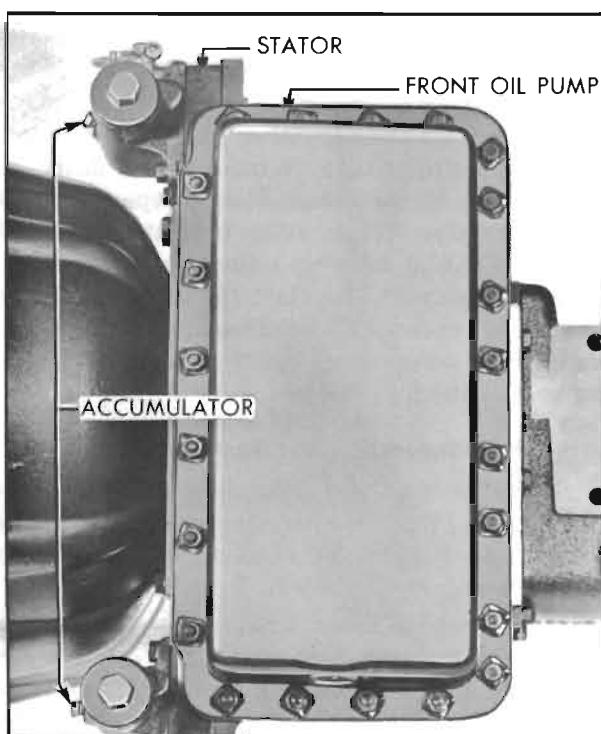

Figure 5-26—Gauge Connections for Oil Pressure Tests
Remove pipe plug at the following points in turn and connect Pressure Gauge J 2575. (1) *Front oil pump*, on left side of transmission case. (2) *High or low accumulator*, on front upper corner of accumulator body. (3) *Stator*, on left end of reaction shaft flange. See figure 5-26.